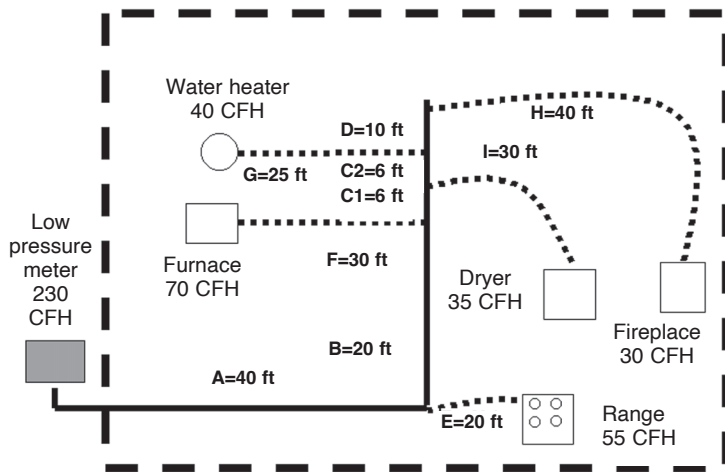

Figure: 3-6
1. The system presented in **Figure 3-6** is a typical residence with 5 appliances. The supply pressure is 7 inches w.c. The allowable drop is 1-inch w.c. total.
1. The system presented in **Figure 3-8** is identical to that in **Figure 3-6**, a single-family installation with 5 appliances. Low pressure 6-7 inches and a pressure drop of 0.5 inch water column..